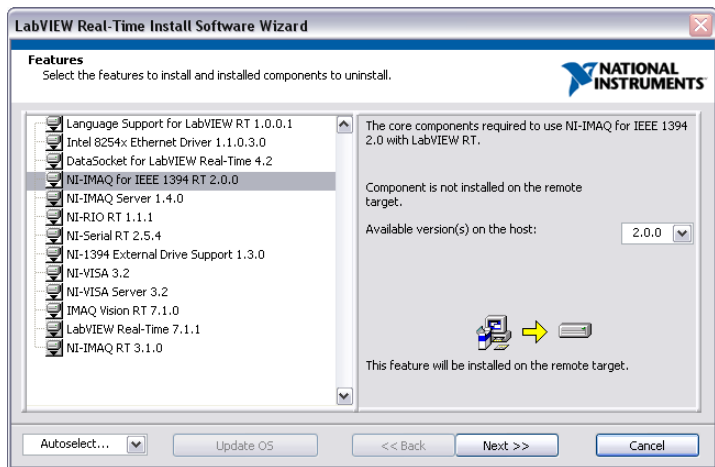

Figure 3. Selecting Software for the Target Machine
- c. Select **NI-IMAQ for IEEE 1394 RT**, as well as any additional software you would like to install on the target machine, as shown in Figure 3.